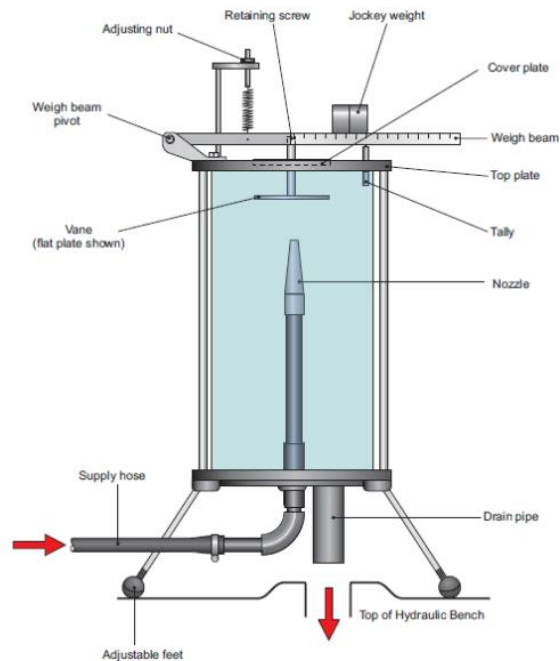

Figure 5: Jet on Vanes
1. Fix the given vane and add dead weight, note down the forces, note down the time, calculate the flow speed, discharge, and coefficient of impact vanes, shown in Figure 5.